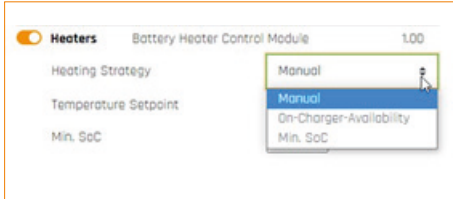

Figure 38. Be in Charge Software: Heater module strategy selection
5. On the top left side of the PCB the old cell can be located and removed as shown in Figure 38.